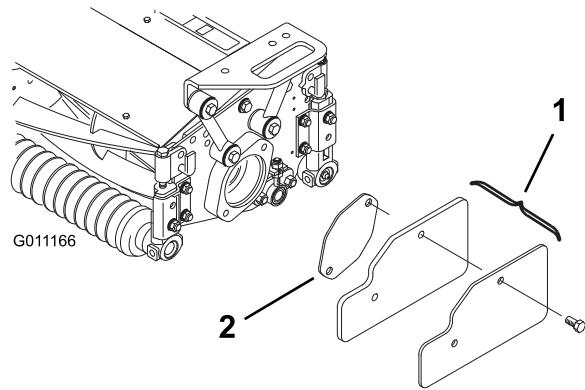

Figure 20
2. Remove the weights and gasket (Figure 20) from the inside end of the right hand cutting unit.